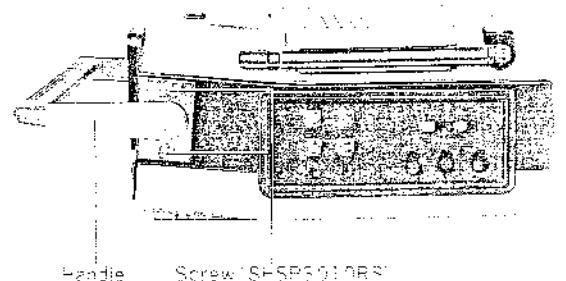

Fig. 4
- Unfasten 4 screws fastening handle indicated in Fig. 4. (both side of handle)